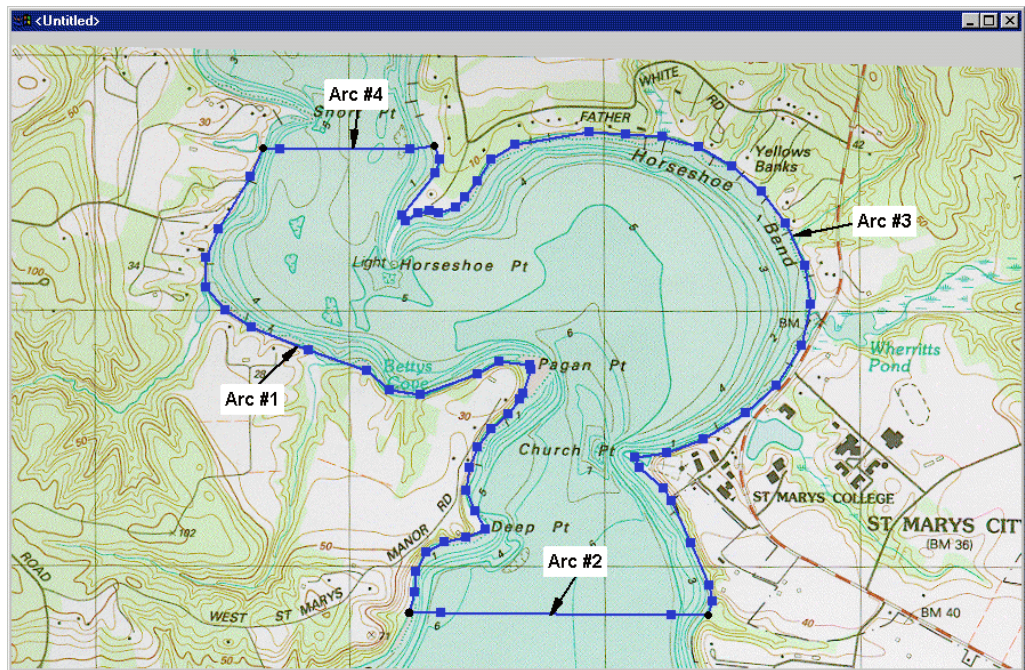

Figure2-4 Feature Arcs
1. Create Arc #2 across the river. Start by clicking on the last node from the first arc and continue to the other side of the river. (see Figure2-4)
2. Make two more arcs, one going up the right bank and the other across the top of the river. Your screen should now look just like Figure2-4.